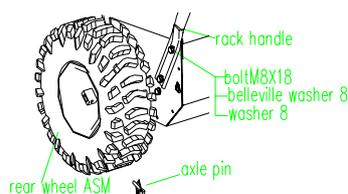

FIG 1
**2.1.3** Move the rear wheels combination inward. Link locking ring combination with axle. (FIG 1)